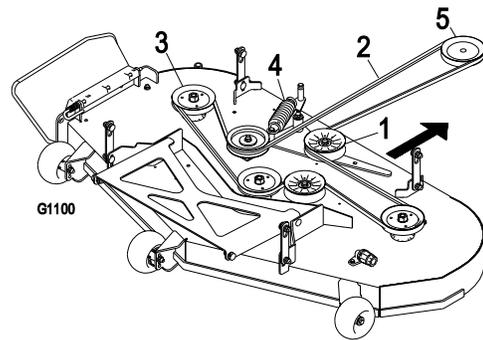

Figure 47
- Route the new belt around the engine pulley and mower pulleys (Figure 47).
- Pull the idler pulley in the direction shown in Figure 47 and route the belt onto the idler pulley (Figure 47).